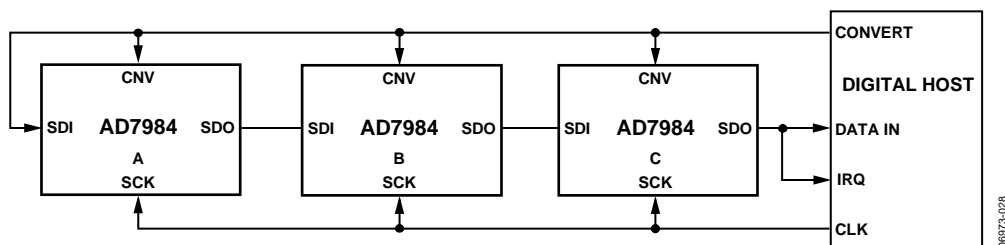
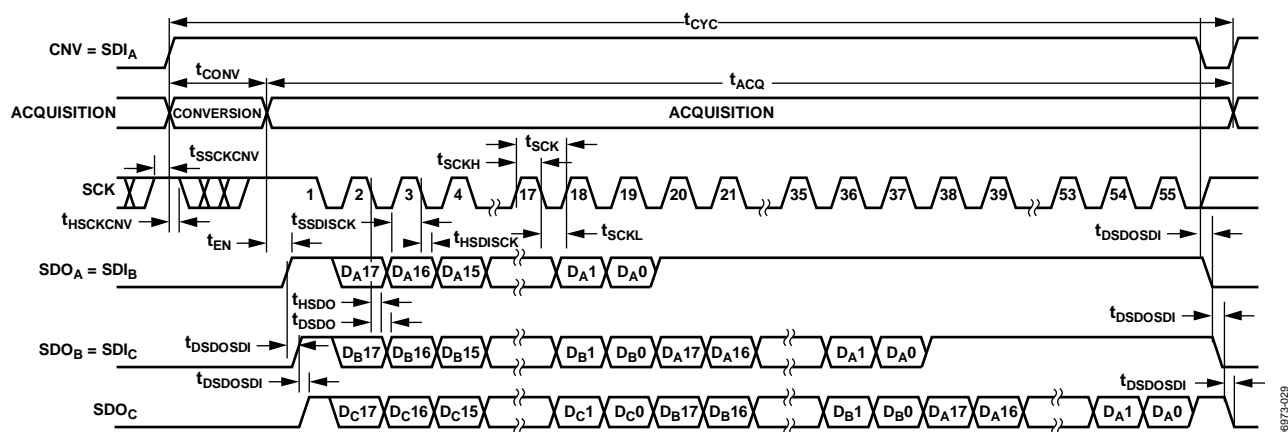

Figure 38. Chain Mode with Busy Indicator Connection Diagram
Figure 39. Chain Mode with Busy Indicator Serial Interface Timing
- In chain mode if SCK is high during the CNV rising edge (see Figure 39).
A connection diagram example using three AD7984s is shown in Figure 38, and the corresponding timing is given in Figure 39.
subsequent data readback. When all ADCs in the chain have completed their conversions, the SDO pin of the ADC closest to the digital host (see the AD7984 ADC labeled C in Figure 38) is driven high. This transition on SDO can be used as a busy indicator to trigger the data readback controlled by the digital host. The AD7984 then enters the acquisition phase and goes into standby mode. The data bits stored in the internal shift register are clocked out, MSB first, by subsequent SCK falling edges. For each ADC, SDI feeds the input of the internal shift register and is clocked by the SCK falling edge. Each ADC in the chain outputs its data MSB first, and  $18 \times N + 1$  clocks are required to read back the  $N$  ADCs. Although the rising edge can be used to capture the data, a digital host using the SCK falling edge allows a faster reading rate and, consequently, more AD7984s in the chain, provided the digital host has an acceptable hold time.